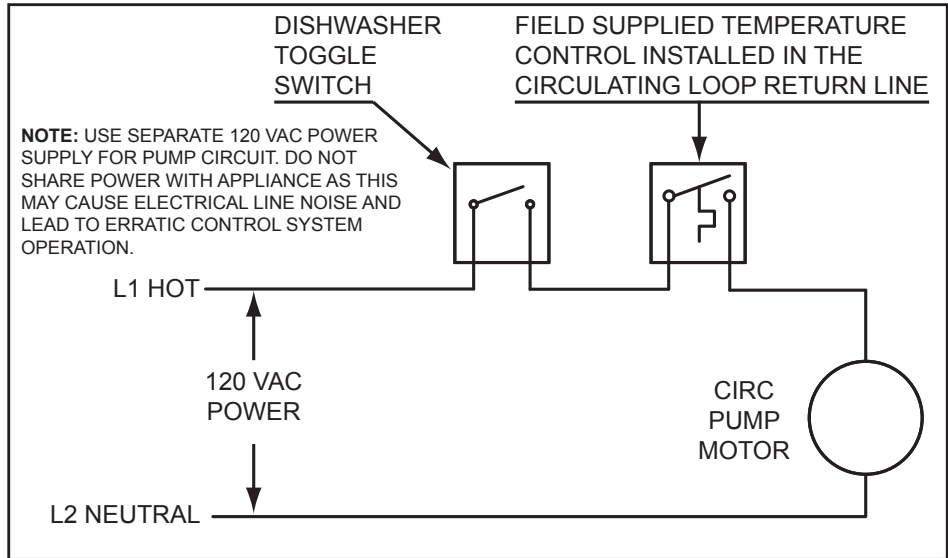

Figure 43. Circulating Pump Wiring Diagram - Dish-Washer Loop with Toggle Switch
7. If a pump is being installed in a recirculation loop between the water heater and a commercial dishwasher wire according to *Figure 43* (page 65).
7. If a pump is being installed in a recirculation loop between the water heater and a commercial dishwasher wire according to **Figure 43** (page 65).